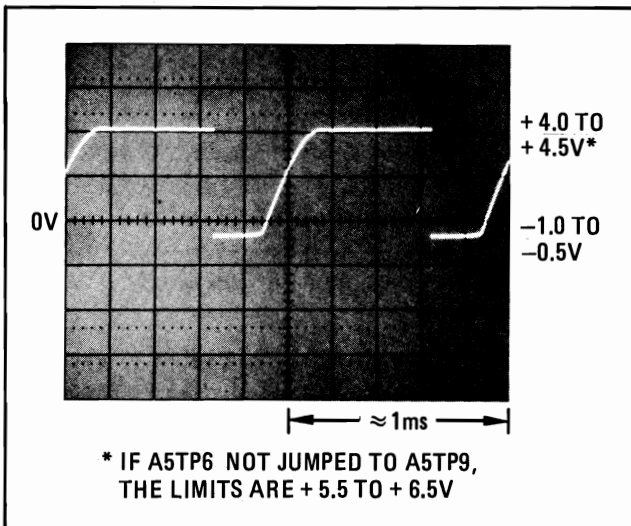

Figure 8-46. Oscillator Leveling Check Waveform
3. Connect the oscilloscope to A5TP3 (S/H). The waveform should be as shown in Figure 8-46. If faulty, see Service Sheet 9 and check Sample and Hold 1.